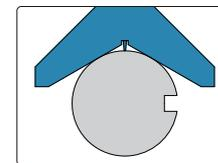

fig.1
---Fit the V-shaped surface of the depth gage to the complete cylindrical edge of the workpiece under test (fig.1)